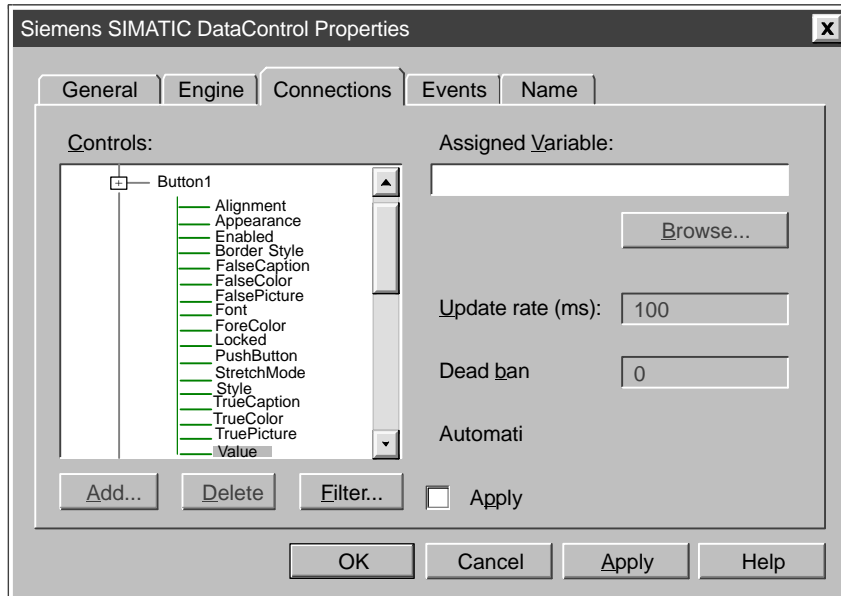

Figure 1-5 Displaying the Expanded List of Properties
3. As shown in Figure 1-5, select the control and click on its “+” symbol to expand its properties list.